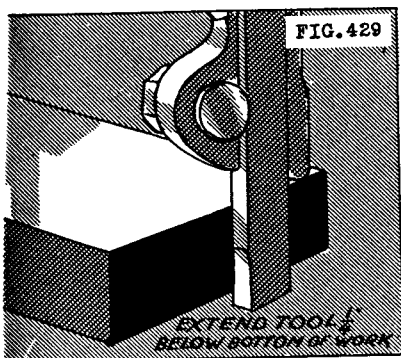

FIG. 429
3. Place the assembled tool and tool holder in the tool post, being certain that the heel of the tool holder clears the plate and that the tool projects beyond the holder a distance about 1/4" greater than the height of the work (Fig. 429).
3. Raise or lower the table until the cutting edge of the tool is slightly below the bottom of the work (Fig. 429). Refer to page 77, How to Adjust the Cross Rail.